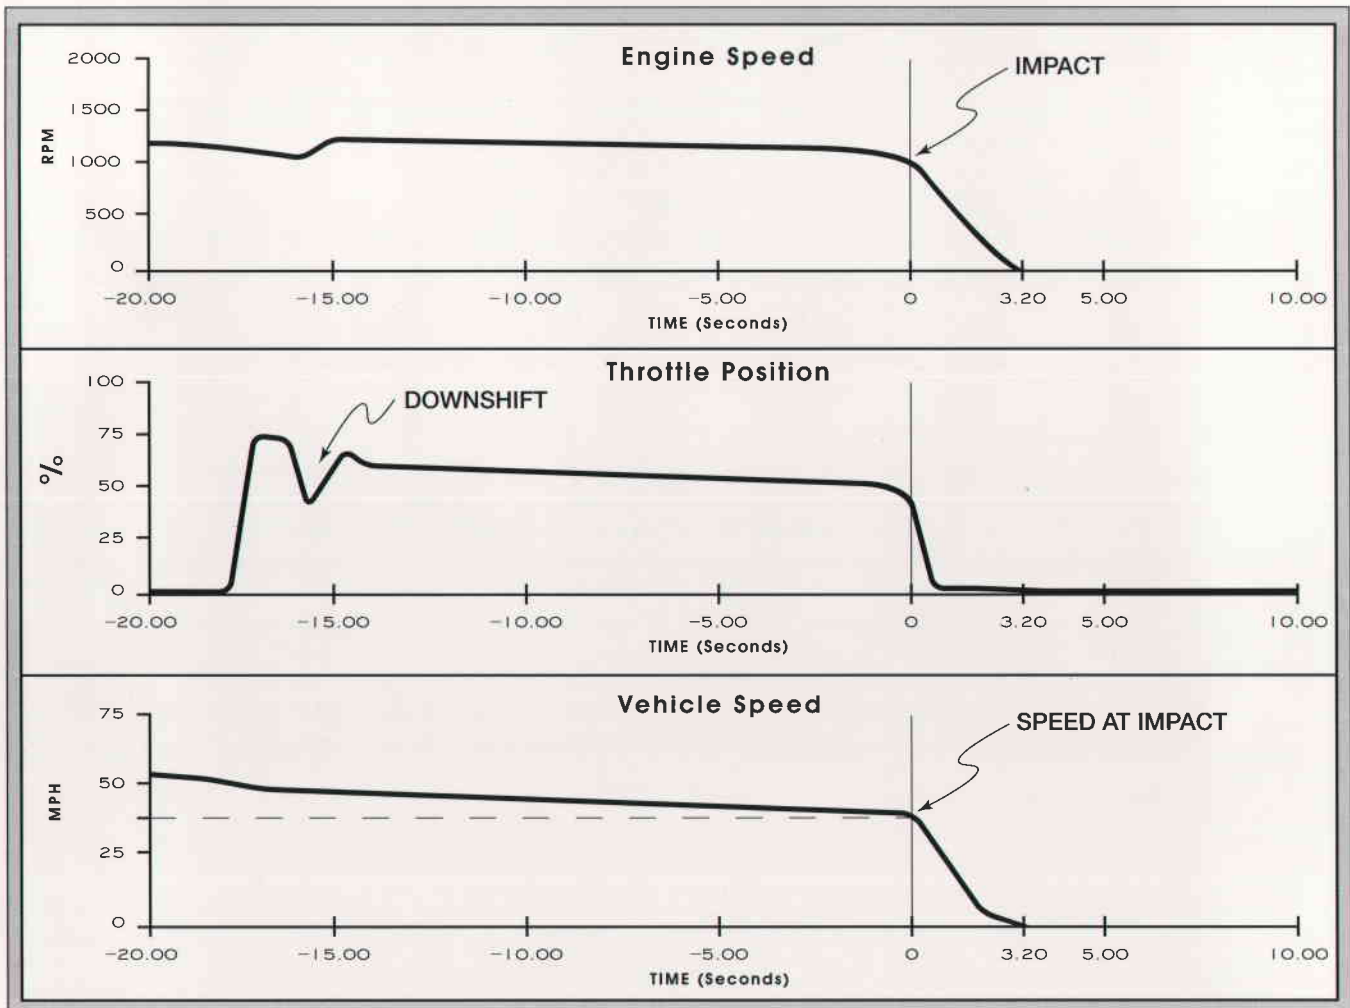

Figure 2 – Typical ECM Output
2. A tractor trailer rear-ended a stopped truck on a highway during a snowstorm. A witness traveling in the opposite direction claimed that the driver “blazed past” other traffic on the road. A reconstructionist extracted data from the ECM which showed that the driver downshifted to reduce speed 15 seconds prior to impact and that the vehicle was traveling only 37 mph at the time of the collision (see Figure 2).